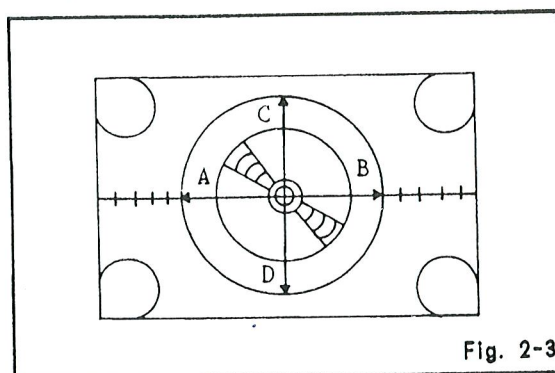

Fig. 2-3
3. Adjust VR406 to $AB = CD$ as shown in Fig. 2-3.